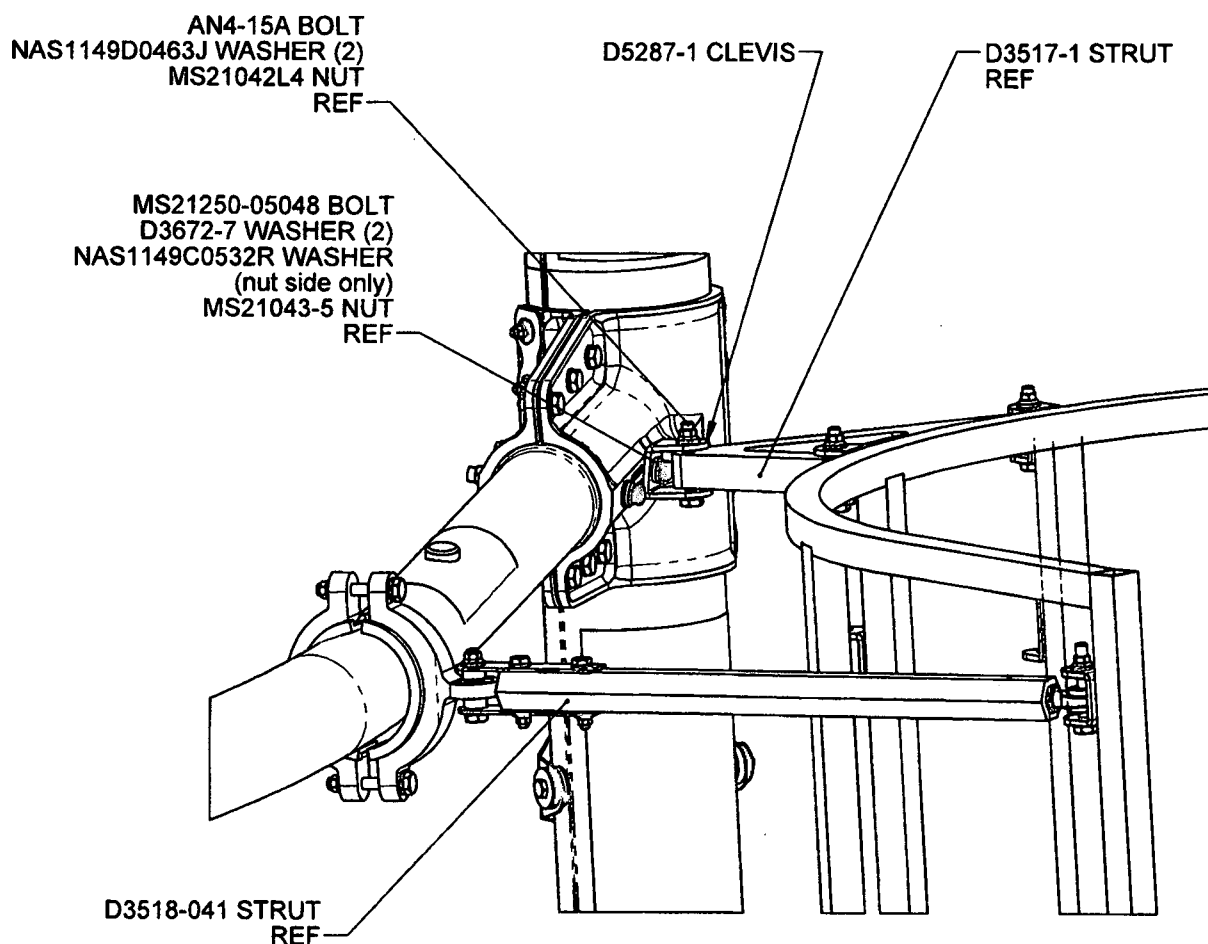

FIGURE 1: CLEVIS/STRUT INSTALLATION
The DSI 9729-011 Clevis Kit replaces the D3516-11 Clevis and D3520-3 Spacer mounted on Dart Skidtube saddles. The parts list for the DSI 9729-011 Clevis Kit is shown on sheet 4 of this service instruction. Install the Clevis Kit as shown in Figure 1 of this service instruction.
- 4.4 Mount the D3517-1 Struts assembled on the basket to the D5287-1/D3156-11 Clevis mounted on the Skidtube saddles and secure using AN4-15A Bolts, NAS1149D0463J Washers (2) and MS21042L4 Nuts as shown in Figure 1.
- 5.2 Install qty (2) D5287-1 Clevis using the retained fasteners as per Figure 1. Assemble with the D3672-7 phenolic washer between the Clevis and the Saddle.